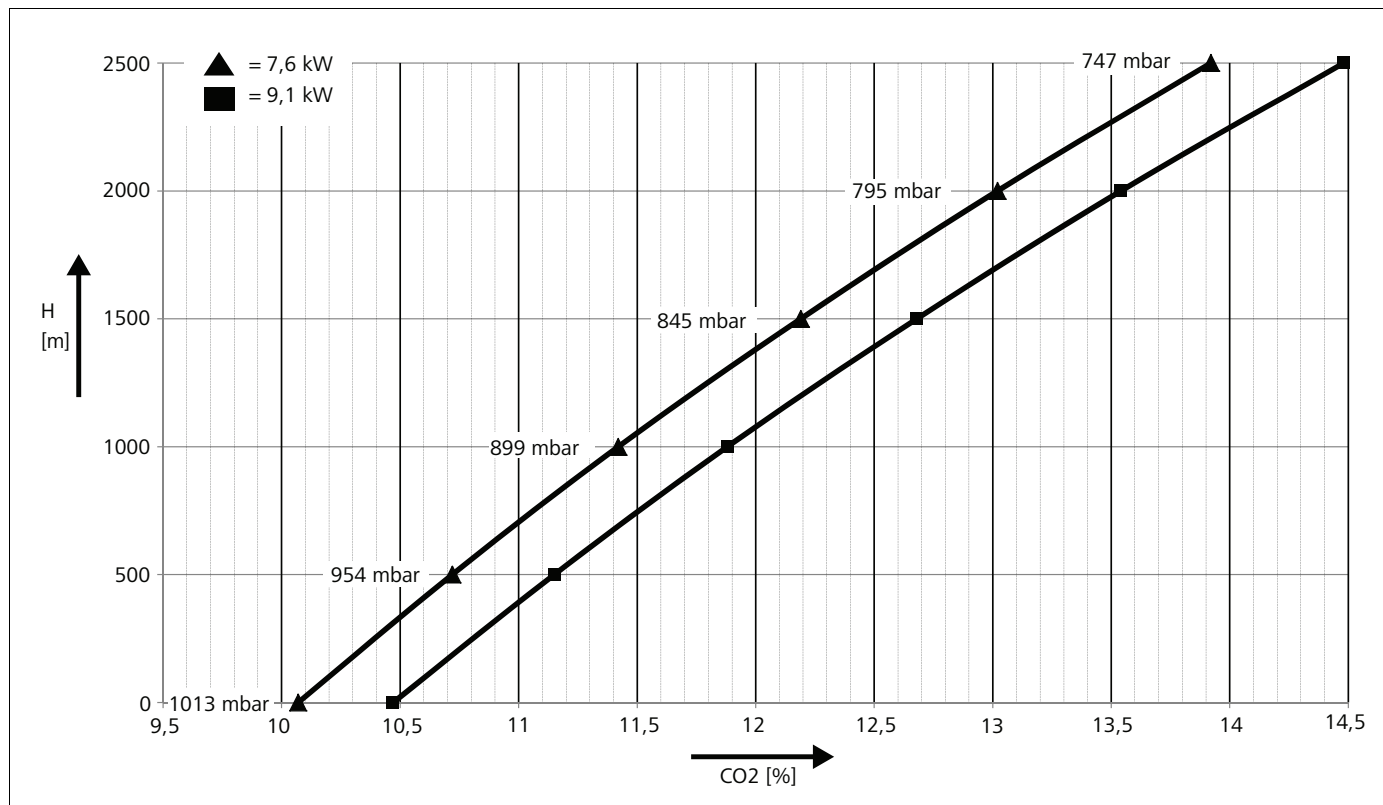

Fig. 601 CO2 altitude correction
- Set the CO2 value as shown in Fig. 601 on Page 602. When setting: